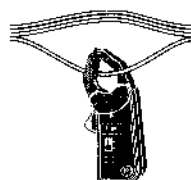

Fig. 2. Illustration of single wire clamped for current measurement.
2. The clamp must be positioned around only "one" conductor of a circuit as shown in Fig. 2. If it is placed around two or more current-carrying conductors the reading will be false. A good example of a false reading would be an attempt to measure ac current by clamping around the line cord of an appliance. Currents flowing in both directions tend to cancel the measurement, giving a false reading.